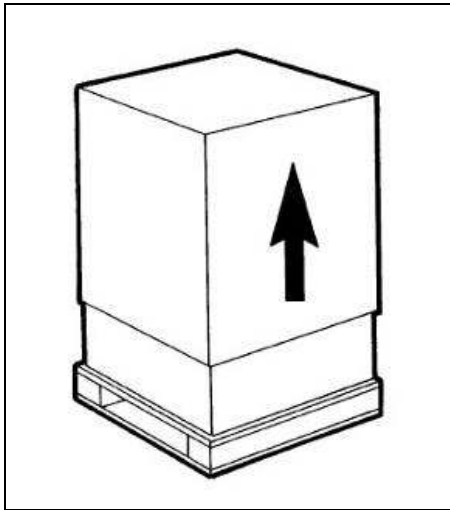

Fig. 1
- a) After removing the packaging, **preserve all parts of it for winter storage** and ensure the integrity of the appliance (fig. 1).